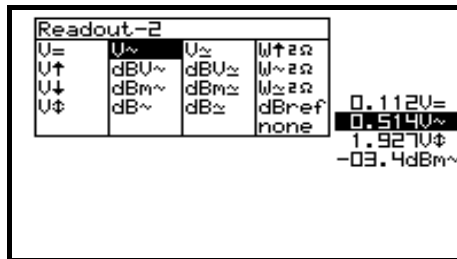

Fig 18
4. Press the cursorkeys to highlight the desired readout function for meter2 readout. (Fig. 18)